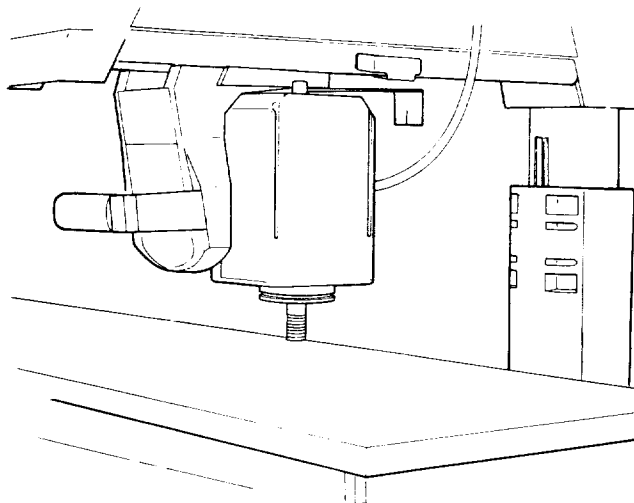

Fig. 103
3. Unlock the *bevel lock*, and turn the *motor* so that the *arbor* is perpendicular to the *table*. (Figure 103)